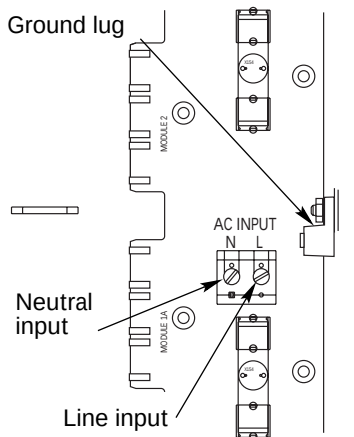

Figure 48: AC connections
3. **Connect line (input feed) wires as detailed in Figure 48 for top and bottom entry.**